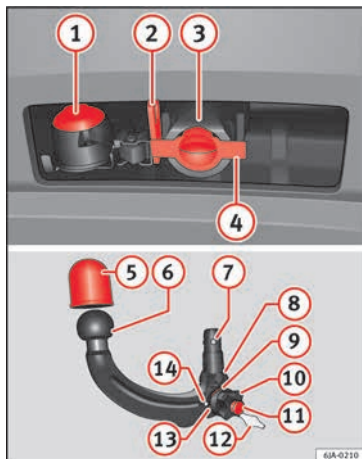

Fig. 195 Towing bracket device support for hitching/ball-headed bar.
Key to » **Fig. 195**
- Remove the cap from the clamping bush (4) » **Fig. 195** by pulling downwards.
» Fig. 195.